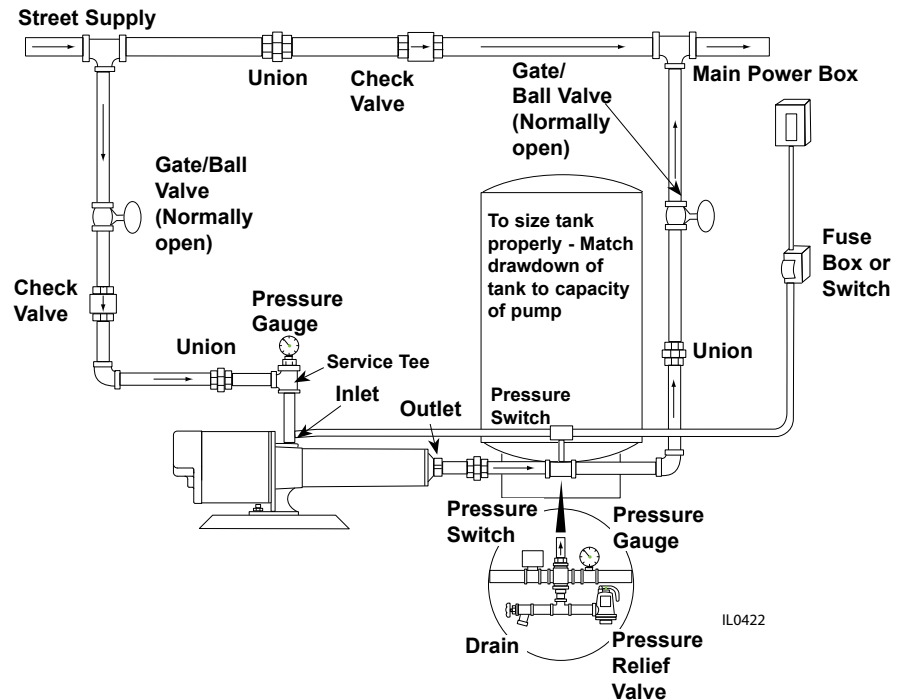

Figure 6
1. Refer to Figures 6, 7, and 8 for typical installations.
1. On pressure boost systems, locate the pump so that there will always be a positive supply of water to the pump (See Figures 6, 7 and 8).
3. Install a check valve as shown in Figure 6. Be sure check valve flow arrows point in the direction of water flow.
- A pressure gauge installed in the inlet pipe close to the inlet port, (See Figure 6) will show if enough water is being supplied to the pump. See Operation Section - Priming, Pressure Boost Installations.
Priming is automatic when pump is connected to a pressure source such as a hydrant or city main (See Figures 6, 7 & 8).
3. If you installed a pressure gauge at the pump inlet, a reading of 2 psi minimum should show whenever the pump is in operation (See Figures 6, 7 & 8).